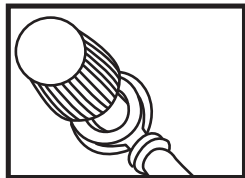

Fig. 1
- transformer [1]. Guide the red fork eyelet of the cable with 12-V-car cigarette lighter plug [12] over the screw connection [7] with its opening (see fig. 1). Ensure that the washer is between the fork eyelet and the nut [16].
- Loosen the black nut [17] at the voltage transformer [1]. Guide the black fork eyelet of the cable with 12-V-car cigarette lighter plug [12] with its opening over the 12-V-screw connection [8] with its opening (see fig. 1). Ensure that the washer is between the fork eyelet and the nut [17].
- Loosen the red nut [16] at the voltage transformer [1]. Guide the red fork eyelet of the cable with the red connection terminal [10] over the 12-V-screw connection [7] (see fig. 1). Ensure that the washer is between the fork eyelet and the nut [16].
- Loosen the black nut [17] at the voltage transformer [1]. Guide the black fork eyelet of the cable with the black connection terminal [11] over the screw connection [8] (see fig. 1). Ensure that the washer is between the fork eyelet and the nut [17].